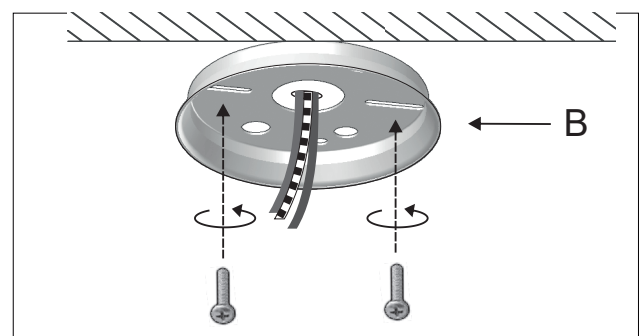

Figure 2
- 2 - Run the main electrical cable through the mounting bracket (B). Affix the subjection to the ceiling. Figure 2.